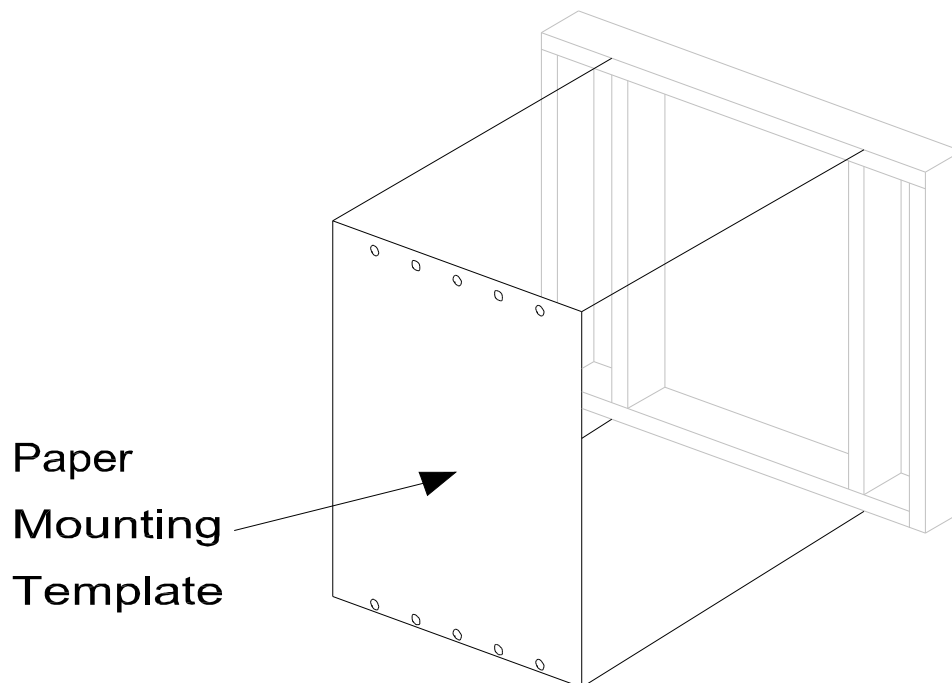

Figure 3
7. Using the paper mounting template, drill a quantity of 10, ¼" diameter pilot holes for mounting. (See Figure 3) **OUTSIDE ONLY – DO NOT DRILL THROUGH THE FRAME.**